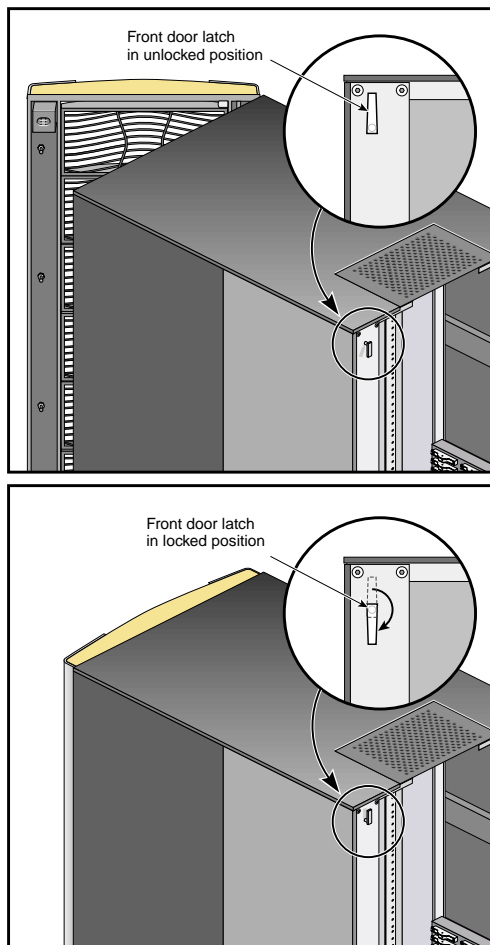

Figure 4-2 Locking the Front Door of the 40U Rack
2. In the rear of the rack, press in the door lock actuator and rotate the lever to point downward (see Figure 4-2).